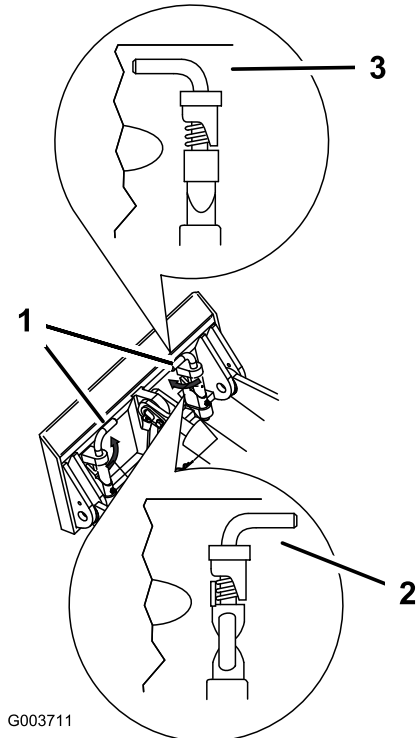

Figure 15
- Engage the quick attach pins, ensuring that they are fully seated in the mount plate (Figure 15).